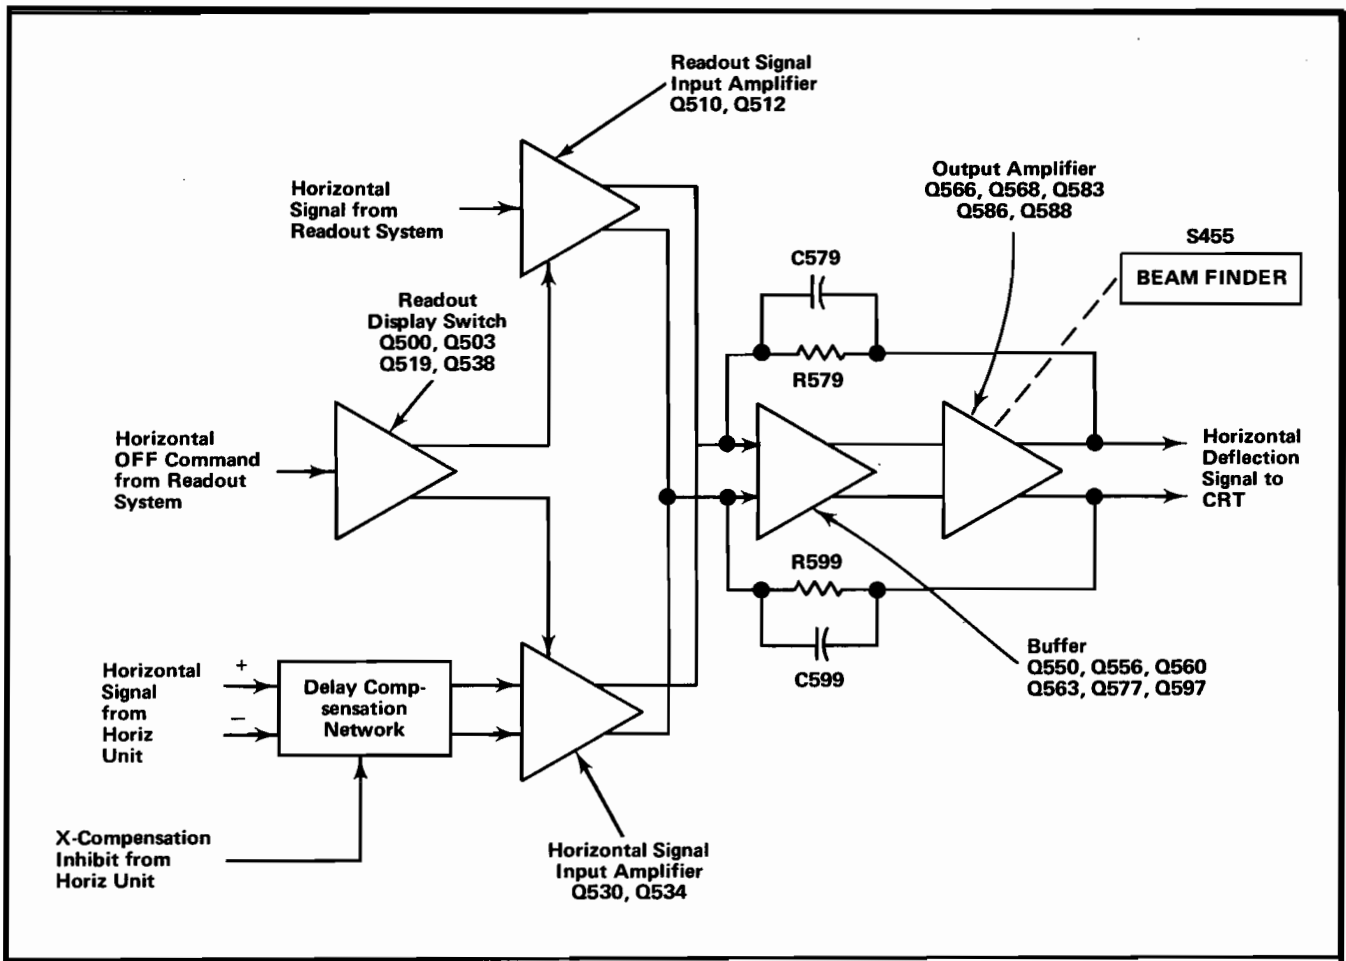

Fig. 3-22. Horizontal Amplifier detailed block diagram.
delay of the vertical (Y) signal due to the Delay Line. Fig. 3-22 shows a detailed block diagram of the Horizontal Amplifier circuit. A schematic of this circuit is shown on diagram 5 at the rear of this manual.